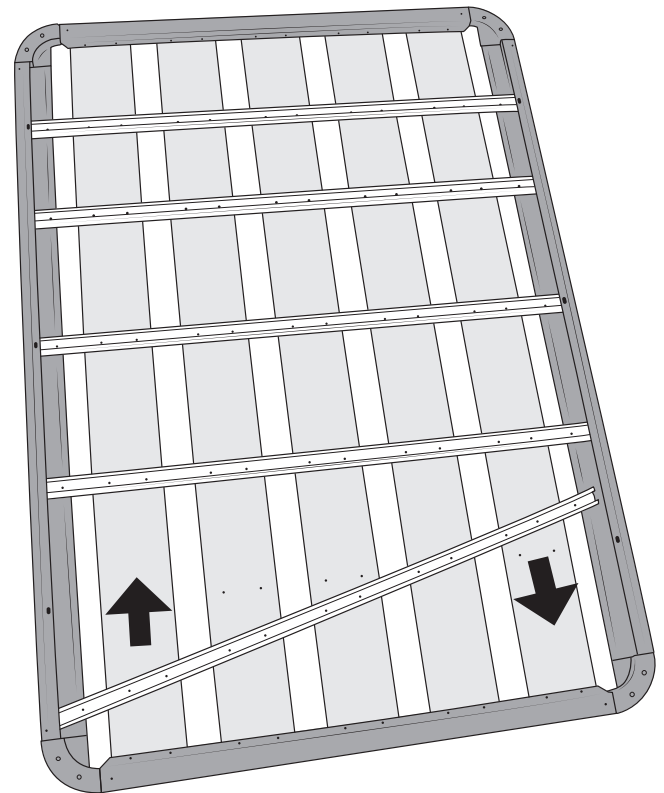

Figure 3
3. Lower the crossbars into the tray as shown (Fig. 3) and rotate into position.